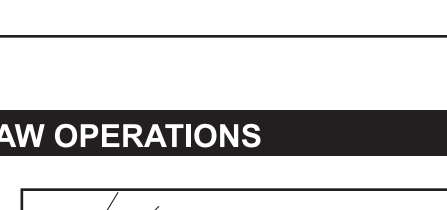

Fig. 10
- Insert blade through hole in board, install blade and adjust blade tension. (Fig. 10)